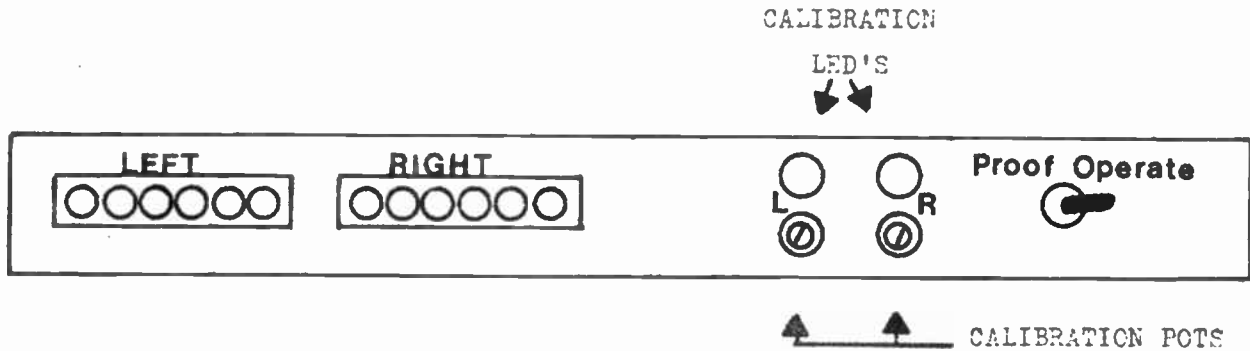

FIGURE 2-3 REAR PANEL CONTROLS
2.2.3 Rear Panel Controls (Figure 2-3)